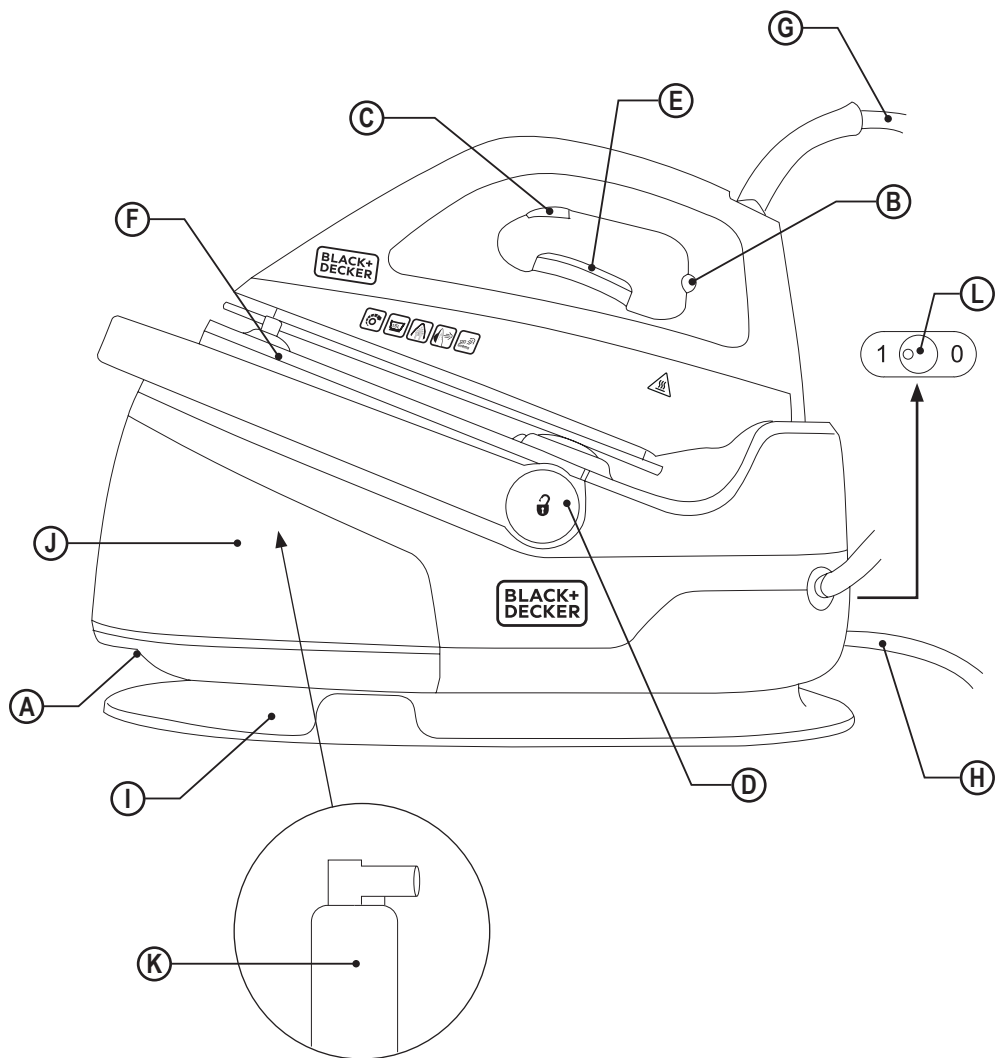

Fig.1
- ♦ IMPORTANT: Check that the water tank is coupled correctly to the anti-scale filter on the inside before switching on the appliance (Fig. 1)